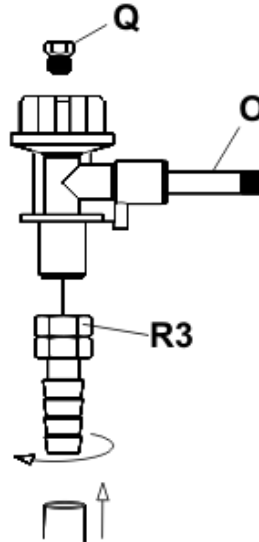
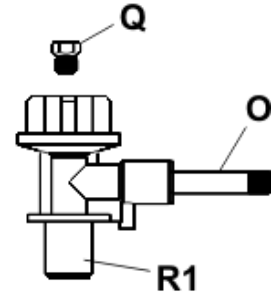

Fig. 4b
Fig. 4c
- **Note:** For Denmark fit Valve Tailpiece (R3). (Fig.4b)
- **I 3B/P (50) Appliance category:** (AT, DE)
Screw a Hose with the correct threaded fittings on each end, onto the left hand ¼" BSP thread of the Valve (O) (Fig.4c). Attach a suitable 50mbar low-pressure regulator on the other end of the hose. The hose used must comply with DIN 4815 part 2 or equivalent.